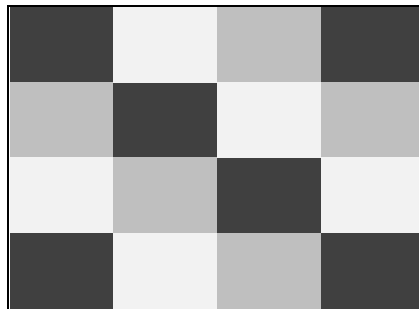

Figure 4-2. Display Test Pattern
6. Press **F3 CALIBRATE**. The test tool shows a dark display; the test pattern as shown in Figure 4-2 may be not visible or hardly visible.
The test tool shows the display test pattern shown in Figure 4-2, at default contrast. Observe the display closely, and verify that the display shows no abnormalities. Also verify that the contrast of the upper left and upper right square of the test pattern is equal.
The test tool shows a light display; the test pattern as shown in Figure 4-2 may not be visible or hardly visible.